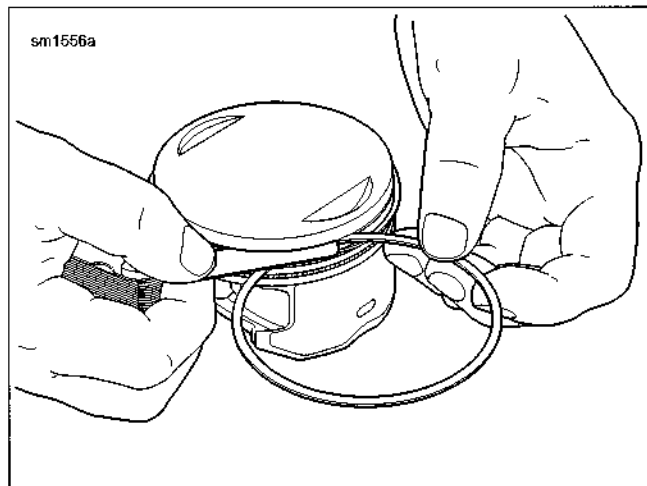

Figure 3-57. Measuring Ring Clearance in Groove
6. See Figure 3-57. Check for proper side clearance with thickness gauge, as shown. See 3.2 SPECIFICATIONS.